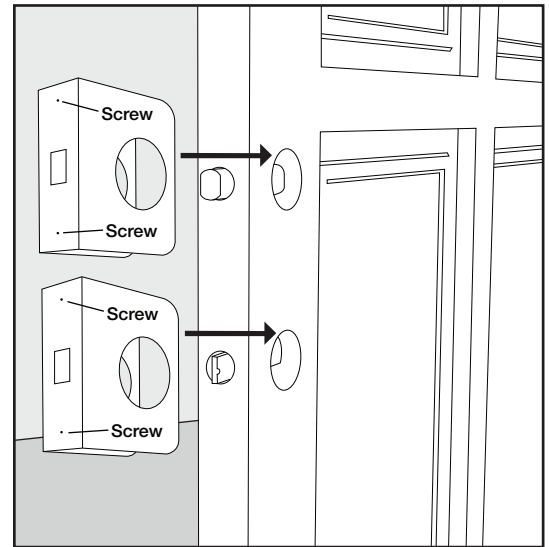

FIG. DS-03A
**Important:** If you have a two-piece, Universal Door Shield, install it as indicated in step 3A on page 5 (FIG. DS-03A).